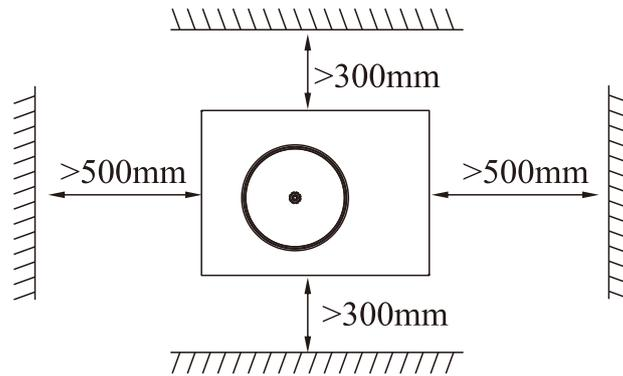
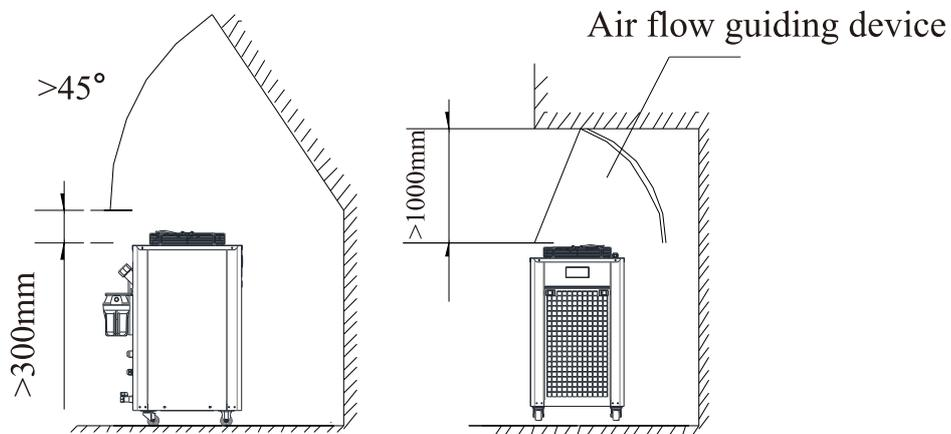

Figure 2 Installation requirements for side exhaust chillers
Figure 3 Installation requirements for top exhaust chillers
b) Spaces requirement around chiller, see Figure 2 & Figure 3.